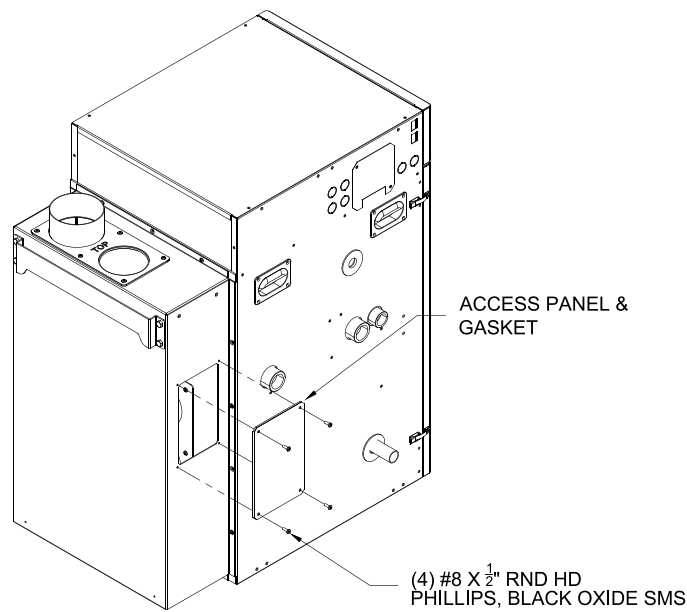

Figure 3-5: Access Panel and Gasket Installation
- n. After the boiler has been piped, wired, connected to vent and combustion air system piping and combustion performance testing completed per Section 9 “System Start-up”, install Access Panel/Gasket assembly and secure with provided four #8 x ½ in. black oxide Phillips head sheet metal screws. See Figure 3-5 “Access Panel and Gasket Installation”.